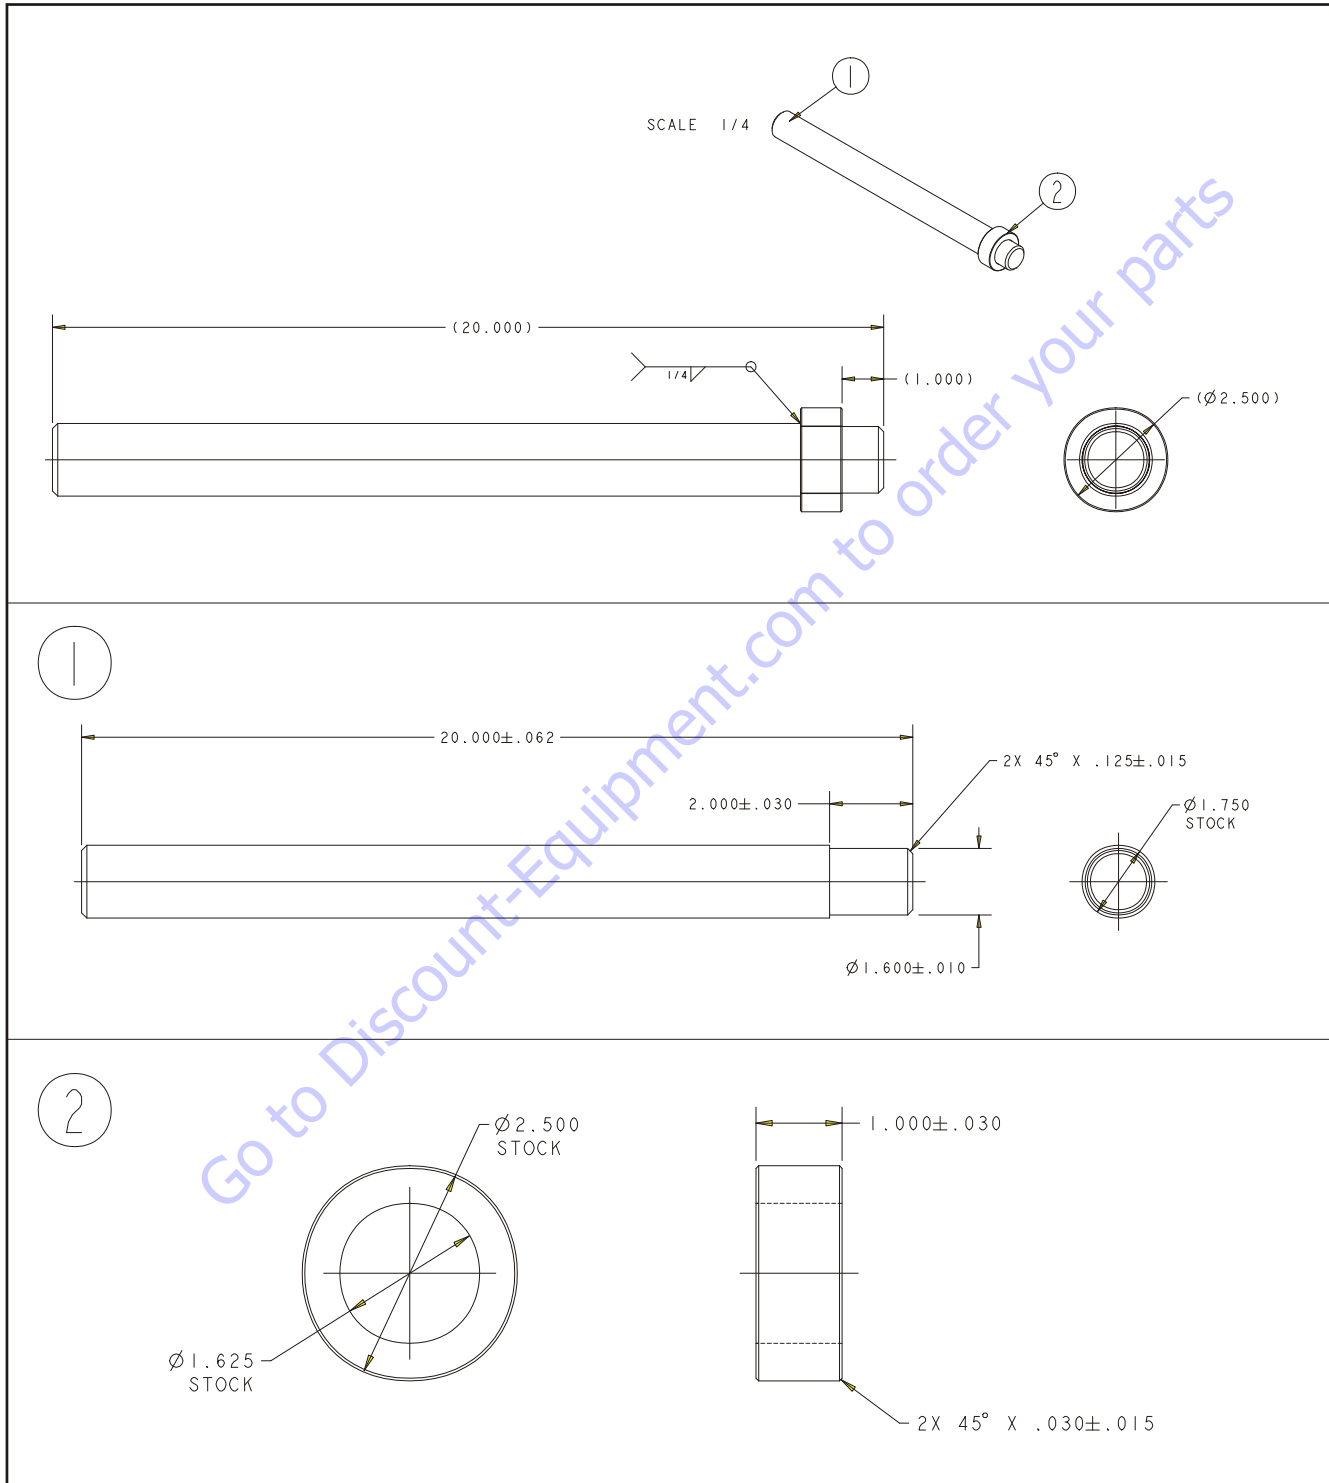

Figure 4-17. Load Pin Removal Tool, JLG PN 4846765
6. Use the Load Pin Removal Tool (JLG PN 4846765) to prevent the pin from being damaged, and use a hammer to remove the pin. To make the tool refer to Figure 4-17, Load Pin Removal Tool, JLG PN 4846765. If the Load Pin Removal Tool is not available, use an arbor of the proper size (as shown below). If excessive force is necessary to move the pin, it may be necessary to carefully activate lift using the auxiliary power switch to relieve lift cylinder weight from the load sensing pin.